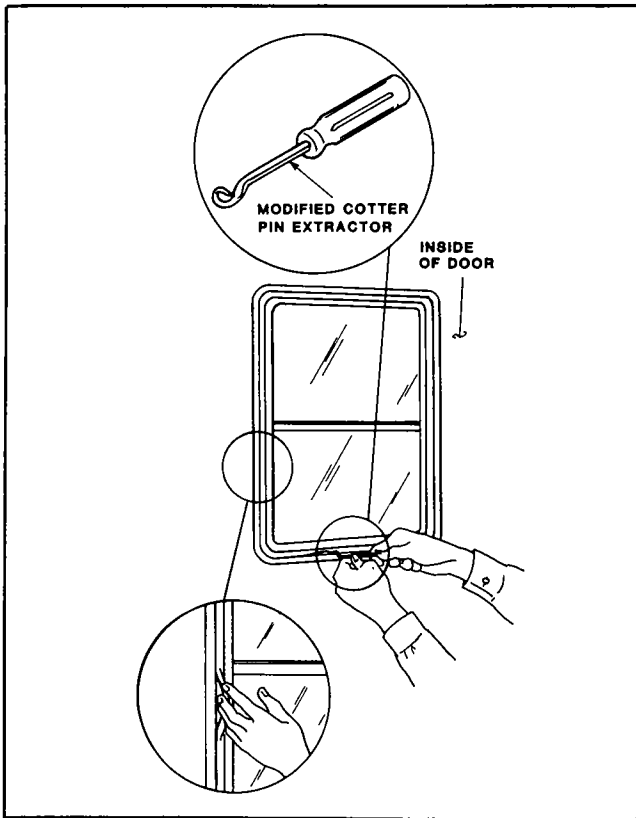

Figure 14. Window Seal
4. Using a modified cotter pin extractor (proto P/N 2306), (as shown in the Hand Truck Repair Manual) unlace the window seal from the inside (figure 14). (Do not perform this procedure on the rear window.)